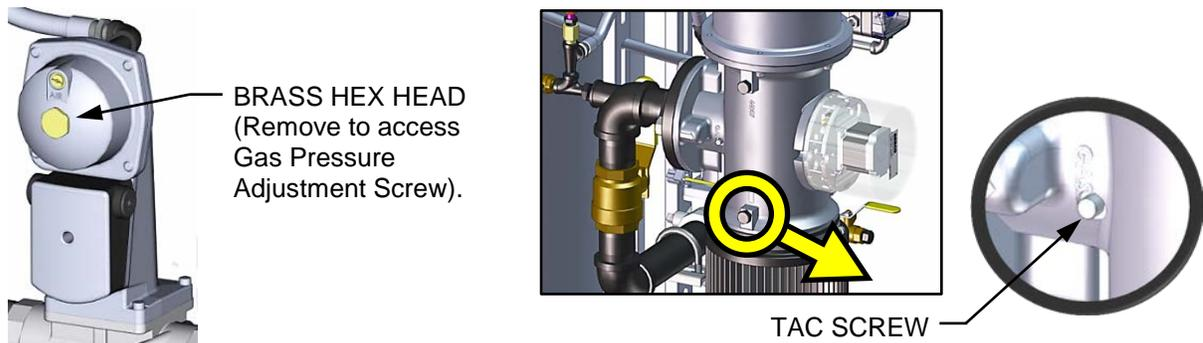

Figure 4-3: Gas Pressure Adjustment Screw and TAC Screw Location
14. Next, verify that the gas pressure downstream of the SSOV is within the range in Table 4-1, for the model you are calibrating. If gas pressure adjustment is required, remove the brass hex nut on the SSOV actuator to access the gas pressure adjustment screw (Figure 4-3). Make gas pressure adjustments using a flat-tip screwdriver to obtain a gas pressure in the range specified in Table 4-1.
26. With the valve position at 100%, if the oxygen level is not within the required tolerance after adjusting the blower voltage, then the gas pressure on the downstream side of the SSOV must be adjusted using the gas pressure adjustment screw on the SSOV (Figure 4-3). Slowly rotate the gas pressure adjustment in 1/4-turn increments, clockwise to reduce O₂ level or counterclockwise to increase it. Allow the combustion analyzer to stabilize following each adjustment.
30. If the oxygen level at the 18% valve position is too high and the Blower voltage is at the minimum value, you can adjust the TAC screw, which is recessed in the top of the Air/Fuel Valve (see Figure 4-3). Rotate the screw 1/2 turn **clockwise (CW) to add fuel and reduce the O₂** to the specified level. Recalibration **MUST** be performed again from 50% down to the lowest valve position after making a change to the TAC screw.